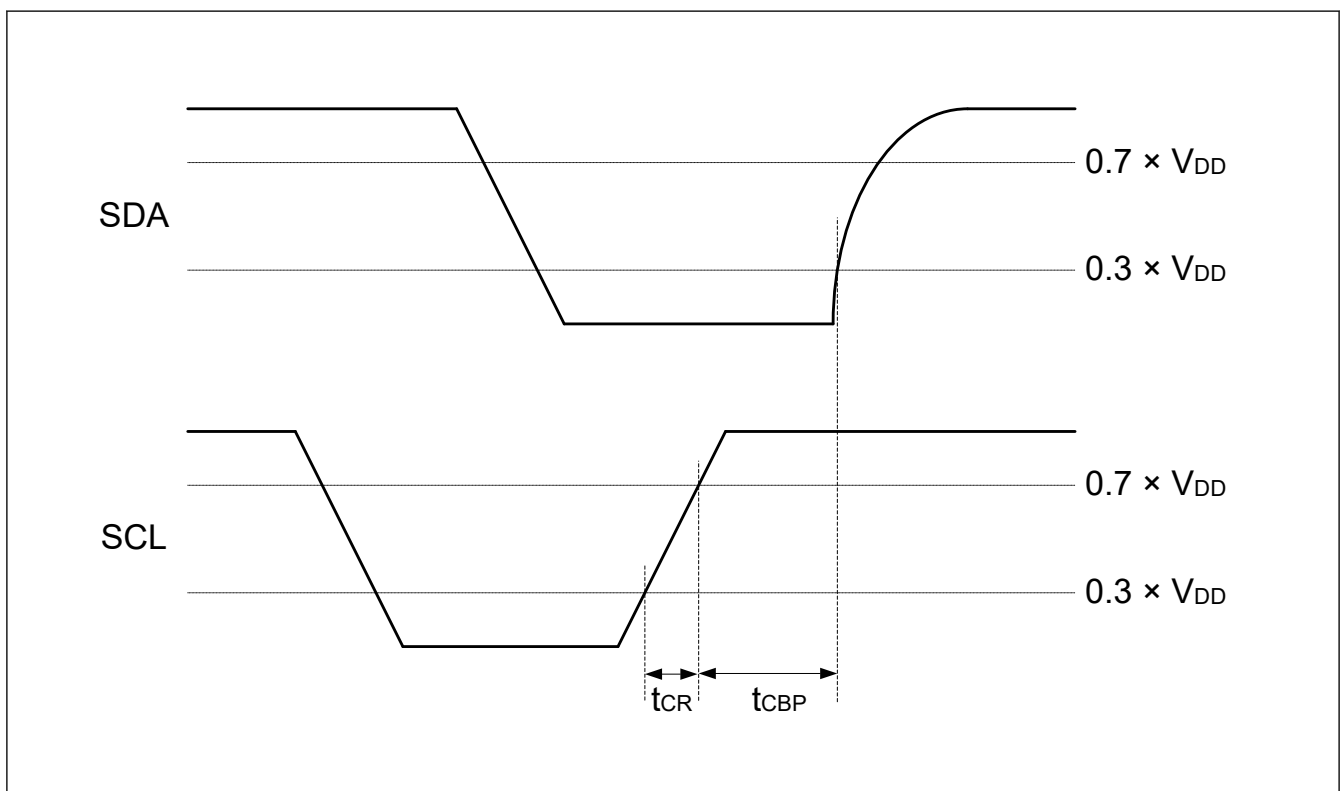

Figure 2.37 I3C STOP condition Timing
| Clock Before STOP (P) Condition                                | t CBP      | Figure 2.37    | t CASmin                             | —                 | seconds | —     |